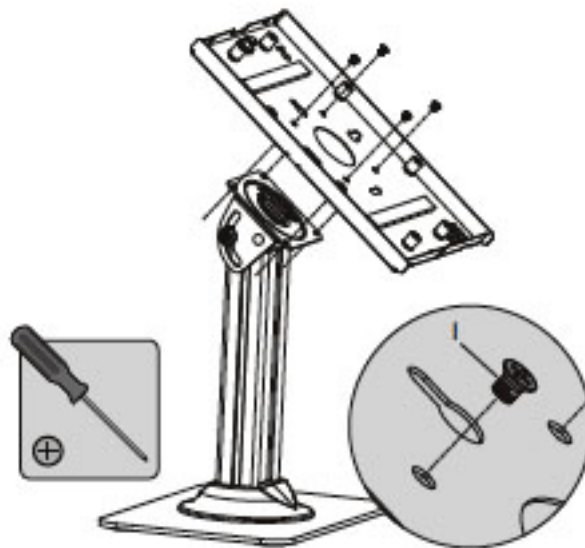

Figure 4B
3. Secure the holder to the support pole using **M5x6 Bolt (I)**, see **Figure 4B**.